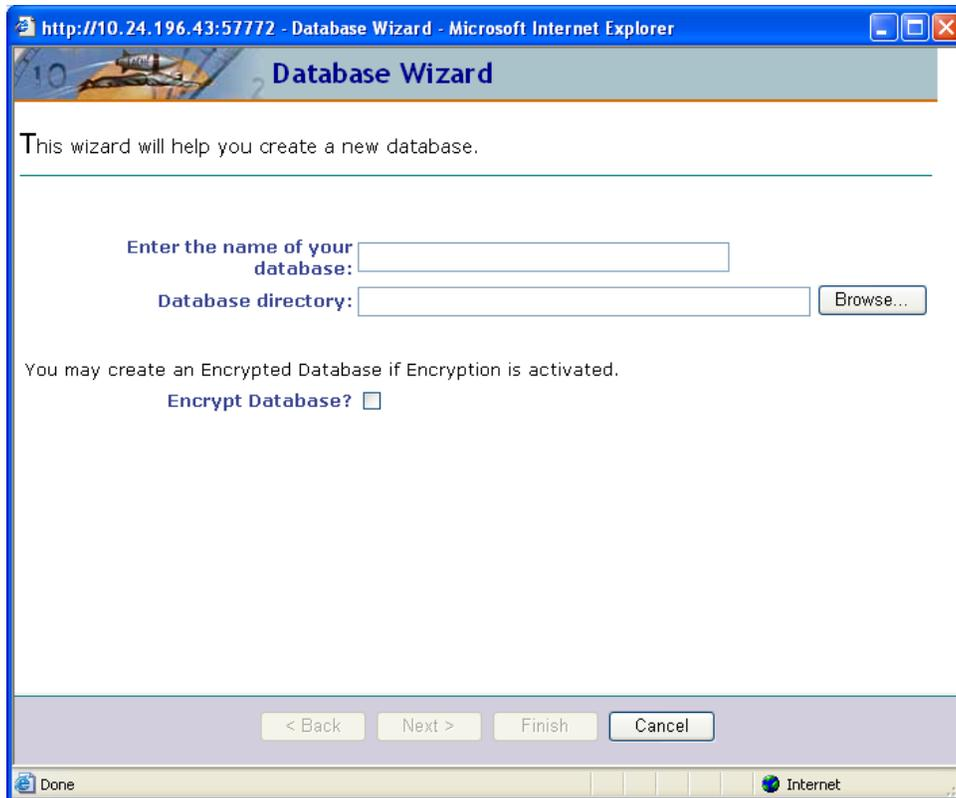

Figure 4-7: Creating a database, encryption activated
11. If your site's policies require encrypted databases and the option is available (as shown in Figure 4-7), make sure the Encrypt Database box is selected. Otherwise, leave the box cleared.